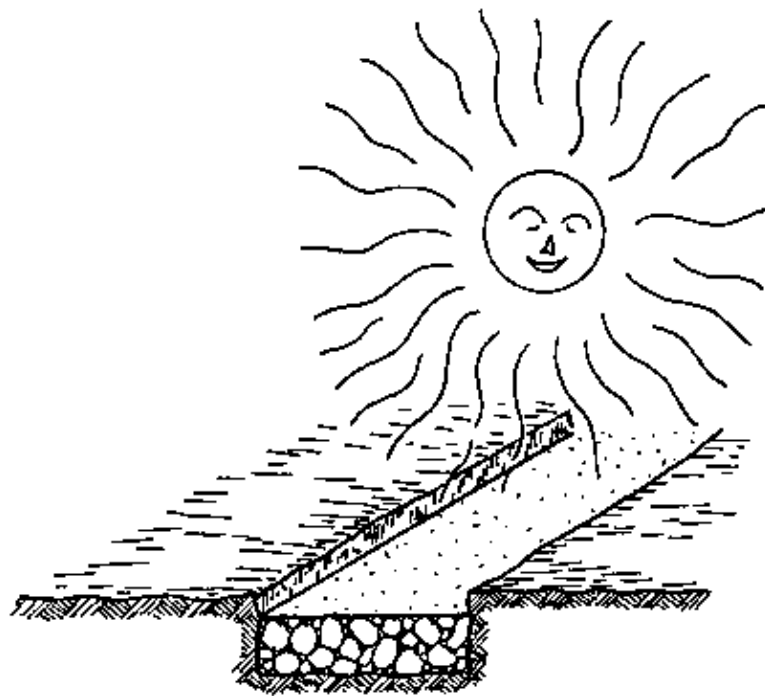

Fig. 3
- The sun, which can “burn” the surface of the concrete, so that although the concrete looks cured, under the surface it has not set hard enough (Fig. 3).